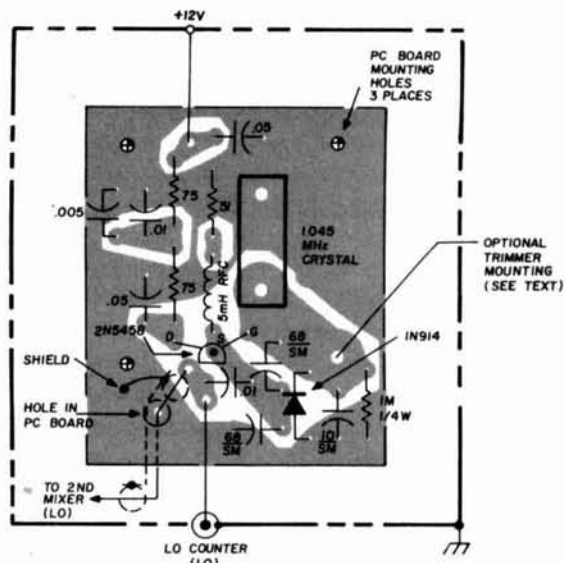

fig. 13. Local oscillator PC-board layout.
**Local oscillator.** The local oscillator is mounted on an independent PC board, as shown in fig. 13. Wiring and installation is straightforward. Many crystal sizes can be accommodated on this board. Provisions are included for an optional ceramic or air type trimmer capacitor. However, an error of 2 or 3 kHz is not harmful since this error can be compensated for in the final HFO trimming and adjustment. Crystals with low ESR (sluggish) will not operate well in this circuit and may have a slight tendency to drift, so purchase good-quality crystals or use an alternative circuit similar to the oscillator circuit described in reference 4.